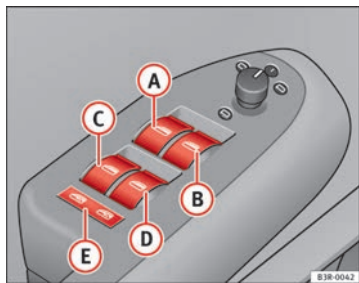

Fig. 81 Detail of the driver door: Controls
- Ⓐ Switch → Fig. 81 for the driver door window
The safety switch ⇒ Fig. 81 **E** can deactivate the rear door switches. The windows can only be operated from the rear when the safety switch is pressed in.